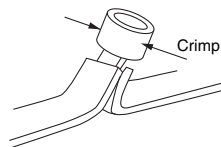
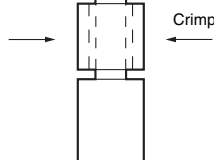

Figure 5
Figure 8
- Pull the sleeve over the wires and crimp in the directions shown in *Figure 5* and *Figure 8*. Pull on the wire to check whether the crimping is effective.
Crimp in the directions as shown in *Figure 5* and *Figure 8*.